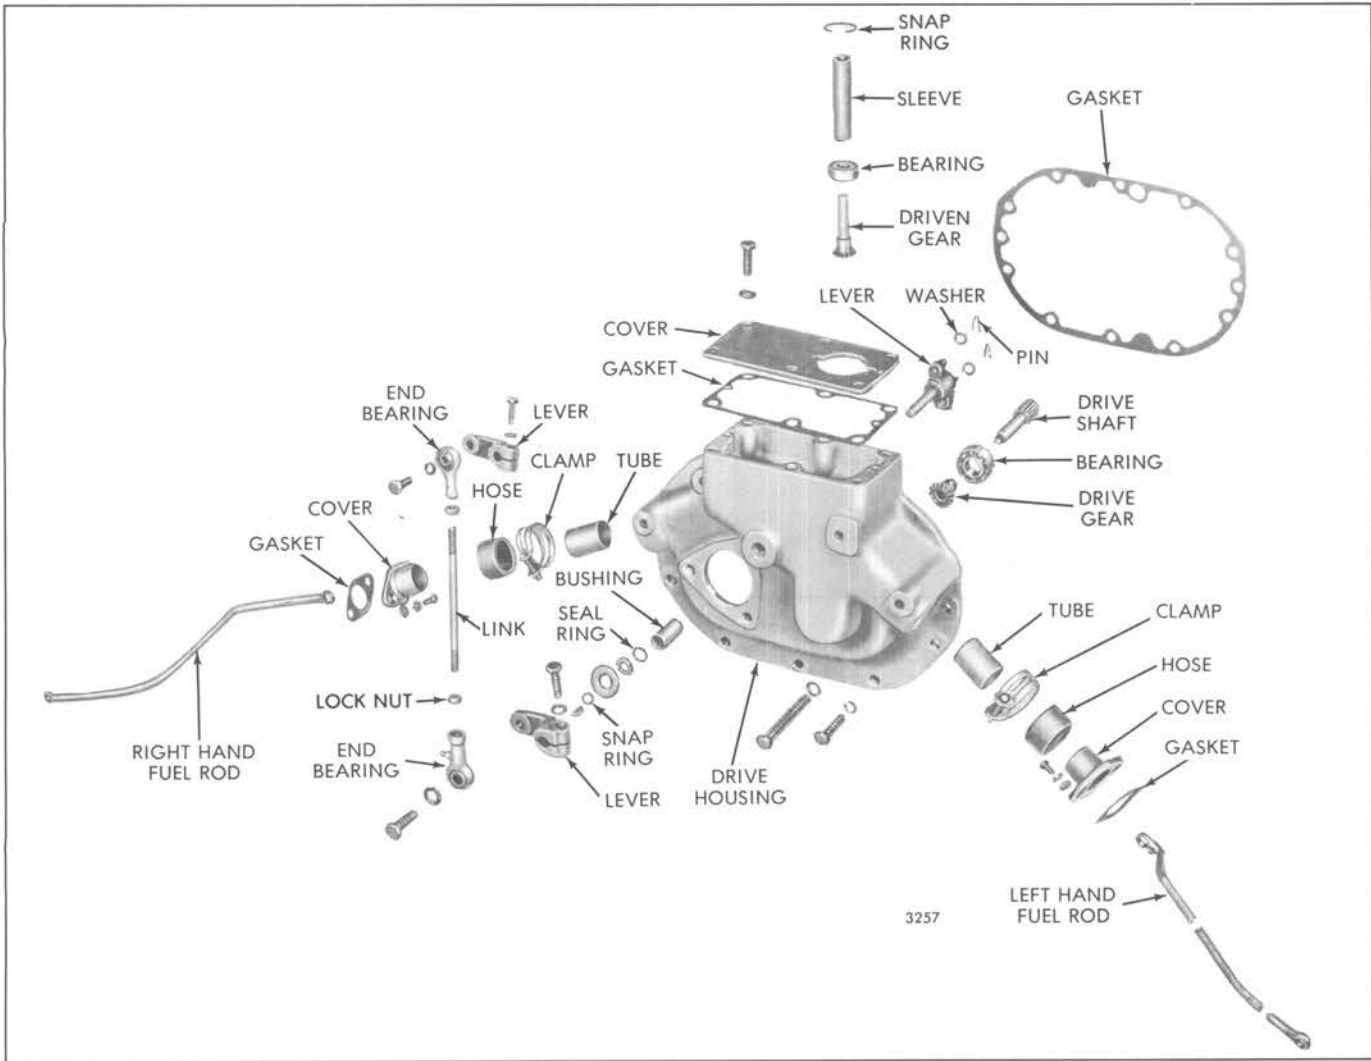

Fig. 6 – Details of Hydraulic Governor Drive and Relative Location of Parts
3. Remove the snap ring securing the governor driven gear bearing in the drive housing (Fig. 6), then pull the driven gear, bearing and driven gear sleeve from the bore in the housing.